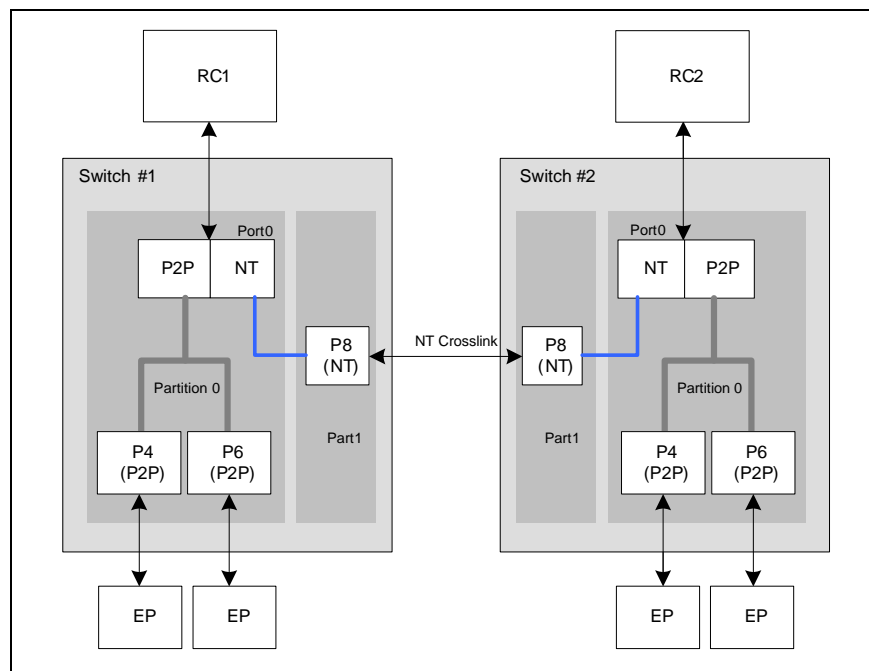

Figure 26.16 High Availability System Configuration with Redundant PCI Express Switches
The system is pre-configured as shown in Figure 26.16.
- RC2 can then proceed to re-configure the PES32NT24xG2 switches to achieve the original configuration (see Figure 26.16), thereby restoring the system back to its pre-failure state.